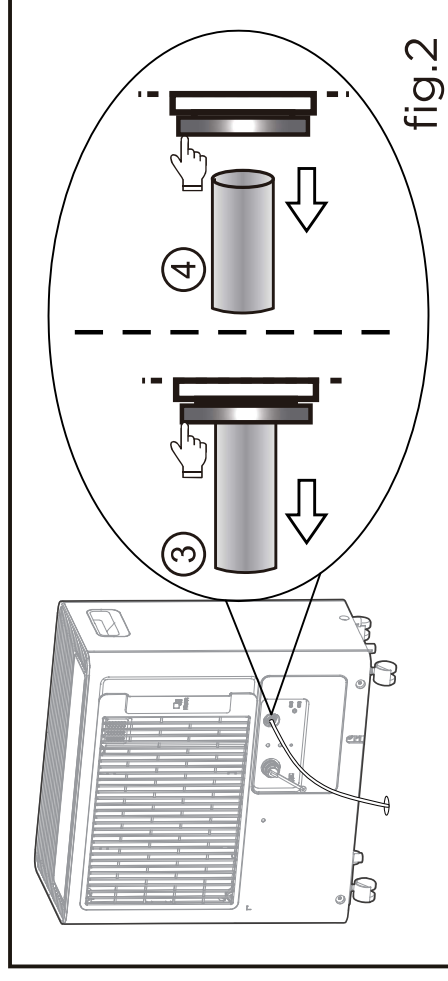

fig.2
- Keep pressing the grey ring while pulling out the plug.(as shown in fig.2);